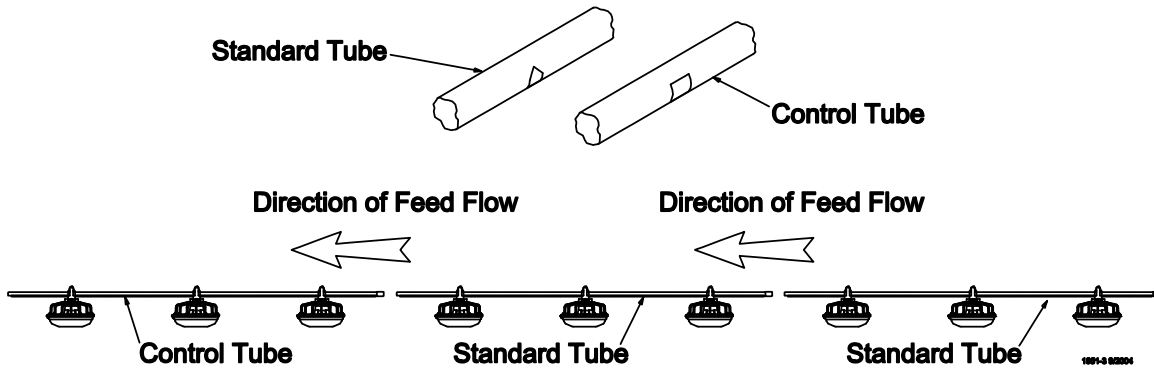

Figure 22. Attaching Feeder Tube Assemblies
1. The auger tubes and feeders may be laid out end to end in approximately the final location of the line. The **belled end of each tube should be toward the Hopper end of the line**. See **Figure 22**.